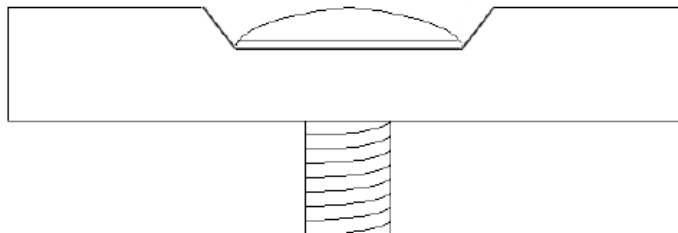

Figure 25 Antenna Placement for High Traffic Areas
- When installing in a high traffic area, Neptune recommends that the dome of the antenna be recessed in the pit lid as shown in Figure 25.